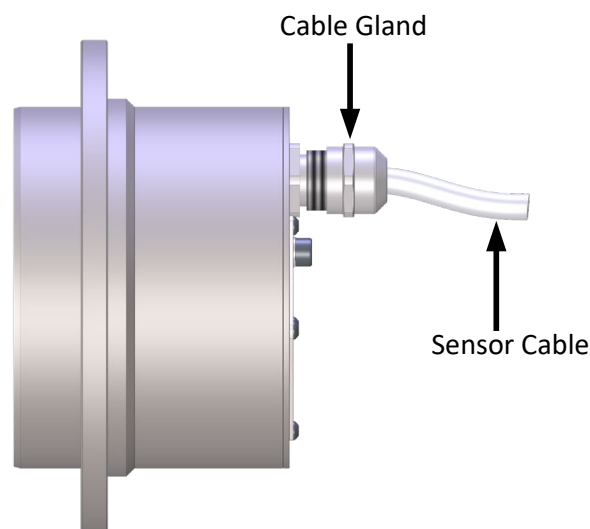

Figure 3: Sensor Cable Gland
- When installing the cable, the user shall provide for the required strain relief to protect the cable gland (Figure 3). The cable must maintain a minimum bend radius of 90mm. Any bend in the cable must start at least 25mm from the cable gland.